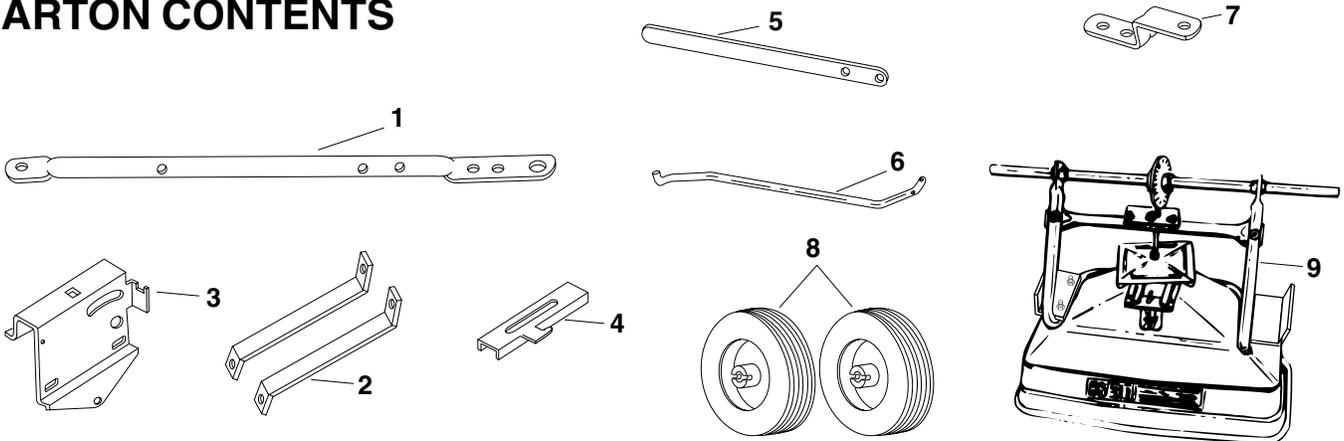

FIGURE 1
Your broadcast spreader carton contains parts as shown in figure 1. The hardware package contains parts shown in figure 2 on page 3. Identify all parts and layout as shown in figures 1 and 2.
1. Remove the spreader, loose parts and hardware package from the carton. See figure 1 and 2.